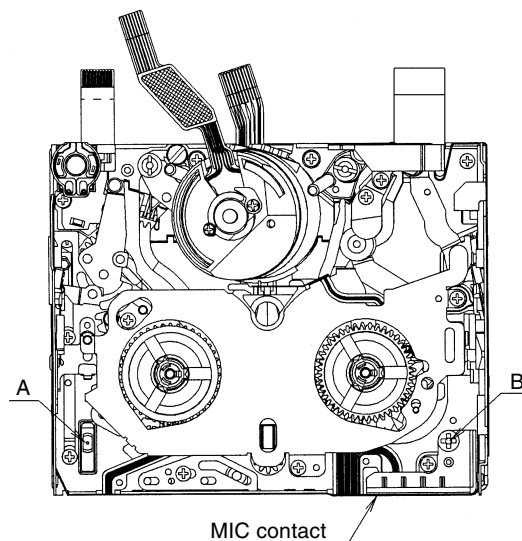

Fig.2 Checking of reel table
- (1) Remove the cassette controller. (Refer to 9-2.)
- (2) Apply 3 to 4V DC to the loading motor while referring to 9-1 and select the PB mode.
- (3) Fit the holes of the master plane to the two guides (portions A and B) shown in the Fig.2, taking great care not to allow master plane to strike the running parts such as the drum and guide roller or the MIC contact.